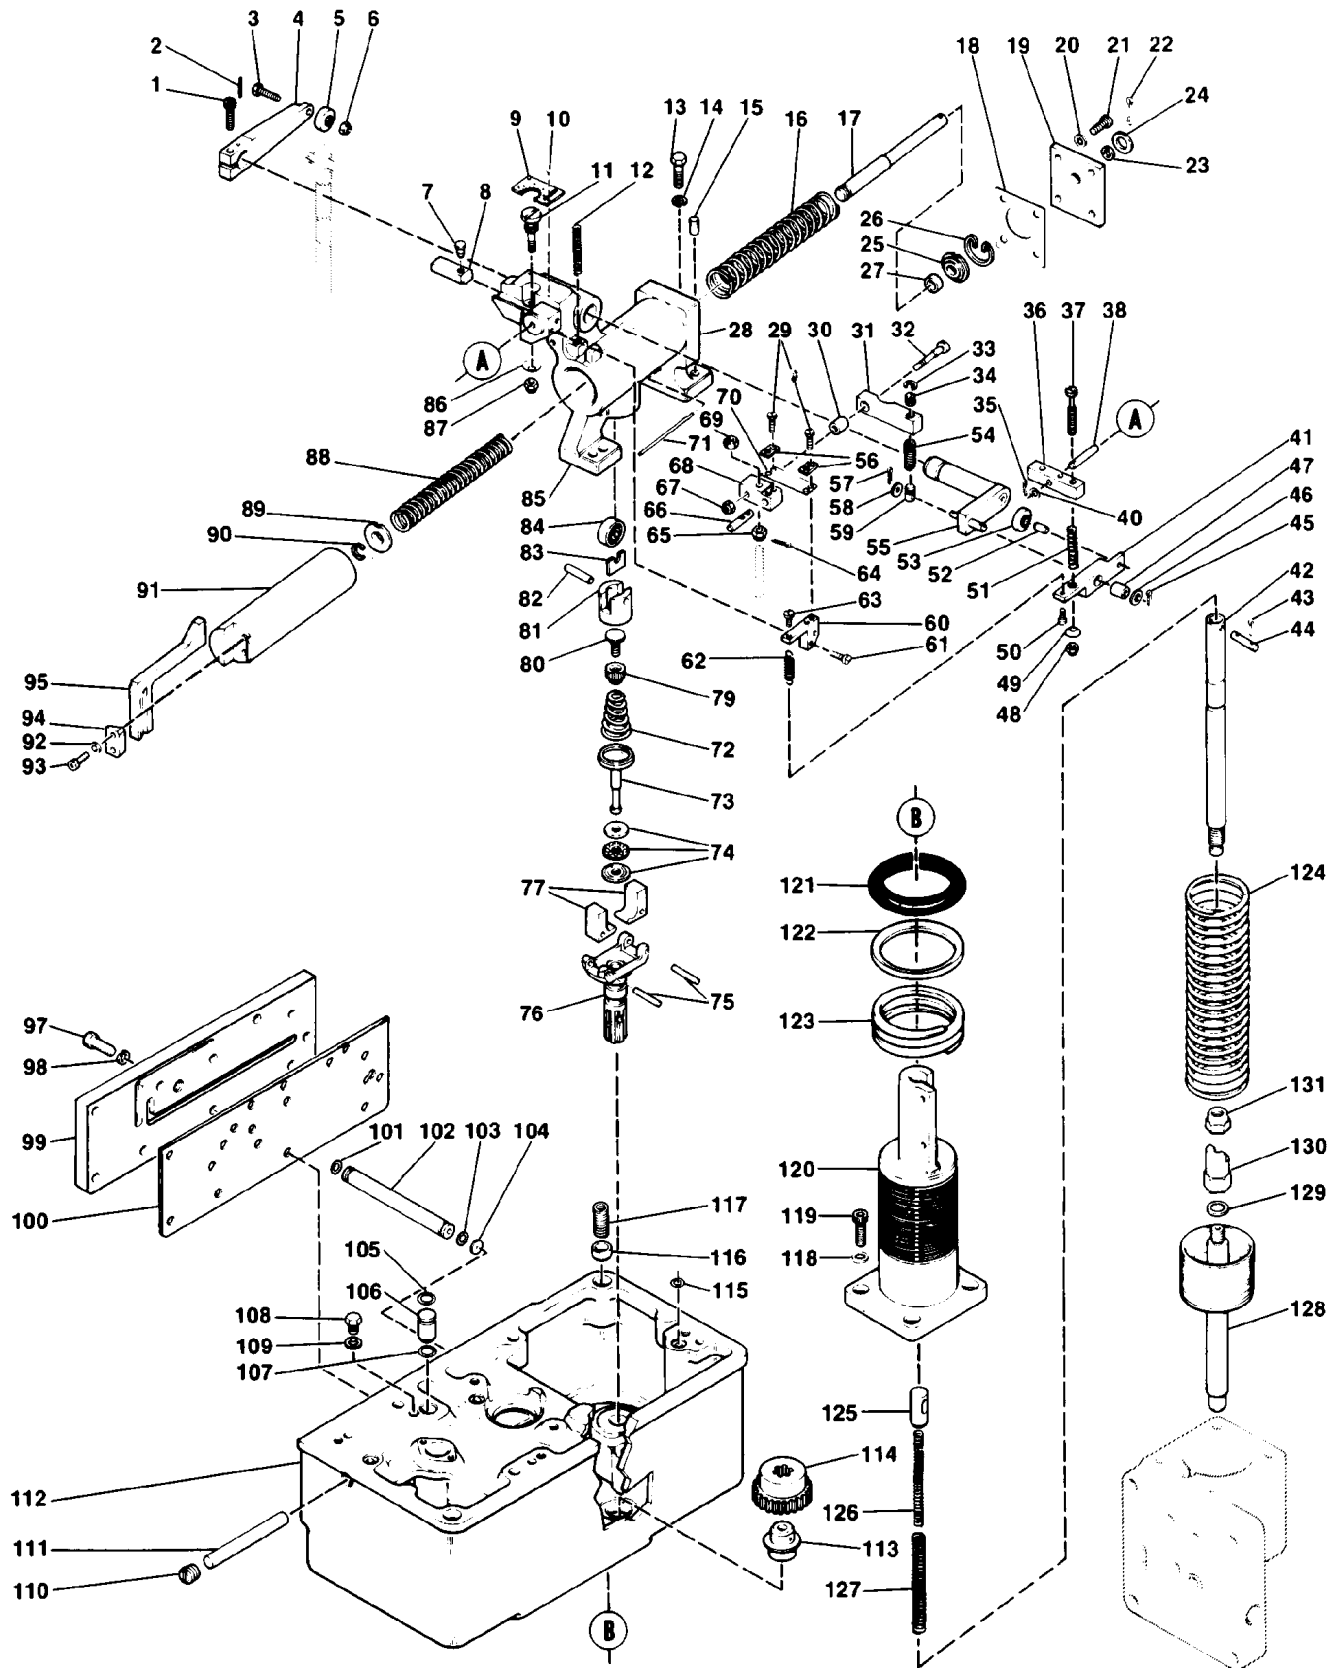

Figure 3. Torque Limiter Exploded View
The governor and all auxiliaries are calibrated at the factory. Adjustment of the torque limiter requires the use of a test stand. Specifications for adjusting and testing the governor are available upon request. Send the governor serial number when requesting information. The speed droop adjustment may be changed and is accessible by removing the cover. Turning the gear (Figure 3, pc. 11) clockwise increases the speed droop; the name plate (pc. 9) is marked to show the relative droop setting.
(See Figure 3.)
1. After removing the cover, remove nut (69) and two bolts (13).
2. Lift the entire torque limit assembly off column (112), being careful not to disturb adjusting screw (80) and nut (79) in roller retainer (81). This adjustment must be maintained.
3. Remove cotter pin (22) and slide piston (91) out of the cylinder. Do not disturb the position of cam (95) on the piston.
4. Remove snap ring (26), piston stop rod (17), and springs (16 & 88).
5. Using the exploded view (Figure 3) as a guide, disassemble the remainder of the assembly only as far as necessary to replace worn or damaged parts. If gear (11) or rack (8) are removed, mark the location of the gear teeth to facilitate reassembly with the same relationship between the gear teeth.
6. Lift ballhead (76) and associated parts (75 through 81) from the column. Do not disturb the relationship between adjusting screw (80), nut (79), and roller retainer (81).
7. Remove gear (114).
8. Remove side plate (99), tubing (102), and disc (104).